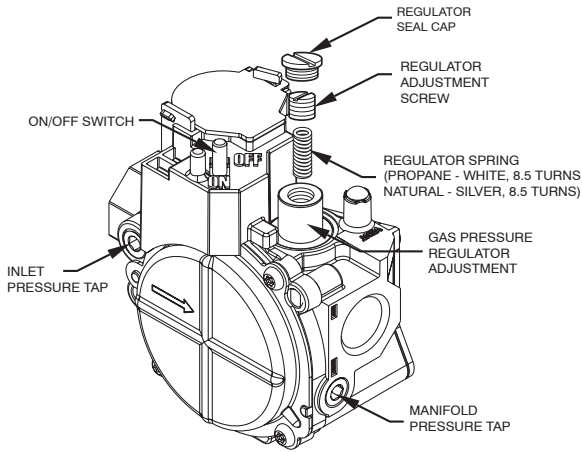

Fig. 10 - Single Stage Gas Valve Series G / J
6. Turn regulator adjustment screw clockwise (in) 8.5 turns for Fig. 10. Go to Step 3